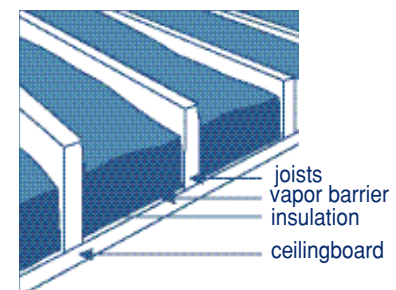

Figure 7
**Step 4: Check existing insulation.** Before adding additional insulation over existing material, check to see whether the old insulation has a vapor barrier and whether it is in the right place. The vapor barrier should face downward, toward the heated portion of the house. If it's been installed incorrectly, check its condition. If the insulation is dry, turn the batt or blanket so that the vapor barrier faces downward (Figure 7). If more insulation